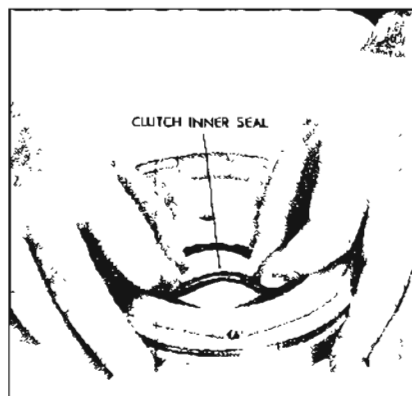

Figure 5-631A
9. Remove the inner seal from the piston. See Figure 5-631A.